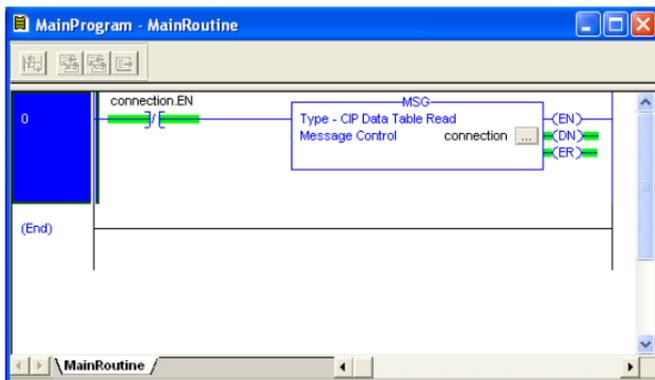

Figure 47: Complete Program
6) The program is now complete. Refer to Figure 47.